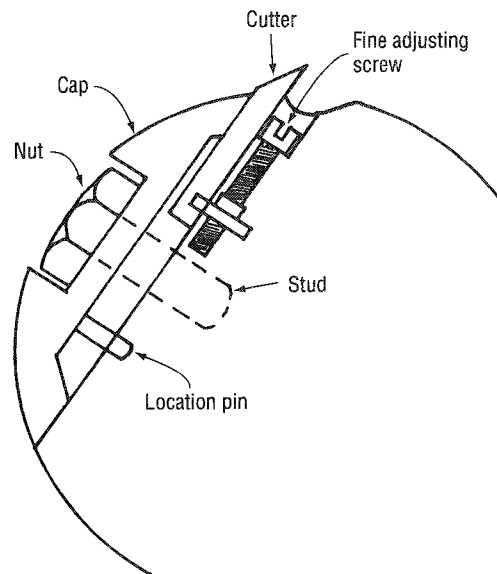

Fig. 3.11 Cap held block.
a) Cap held blocks (**Fig. 3.11**)